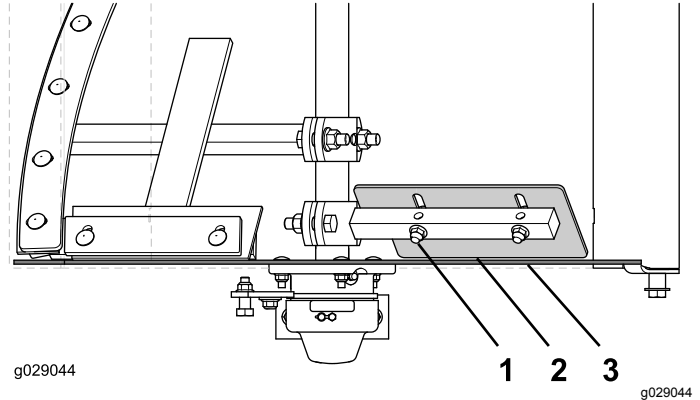

Figure 73
2. Loosen the carriage bolts and flanged locknuts that secure the adjustable end paddle to the fixed paddle. (Figure 73)